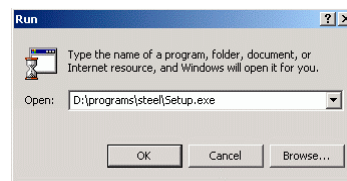

Figure 4: Run dialog box
- In the "Run" dialog box, click **Browse** to select the **Setup.exe** program on the DVD in the folder shown in Figure 4.